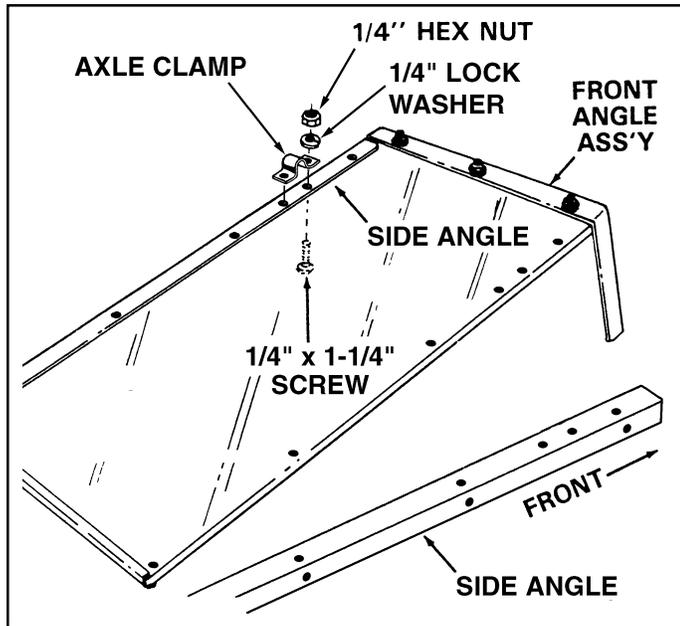

FIGURE 3
- Turn the front angle assembly and bottom panel upside down as shown in figure 3.
- Lay each side angle on the bottom panel so that the two holes (for the axle clamp) are closer to the front angle assembly. See figure 3.
- Secure both axle clamps to the side angles and the bottom panel using four $1/4"$ x $1-1/4"$ screws, lock washers and hex nuts. **Make only finger tight** until the axle is assembled. See figure 3.